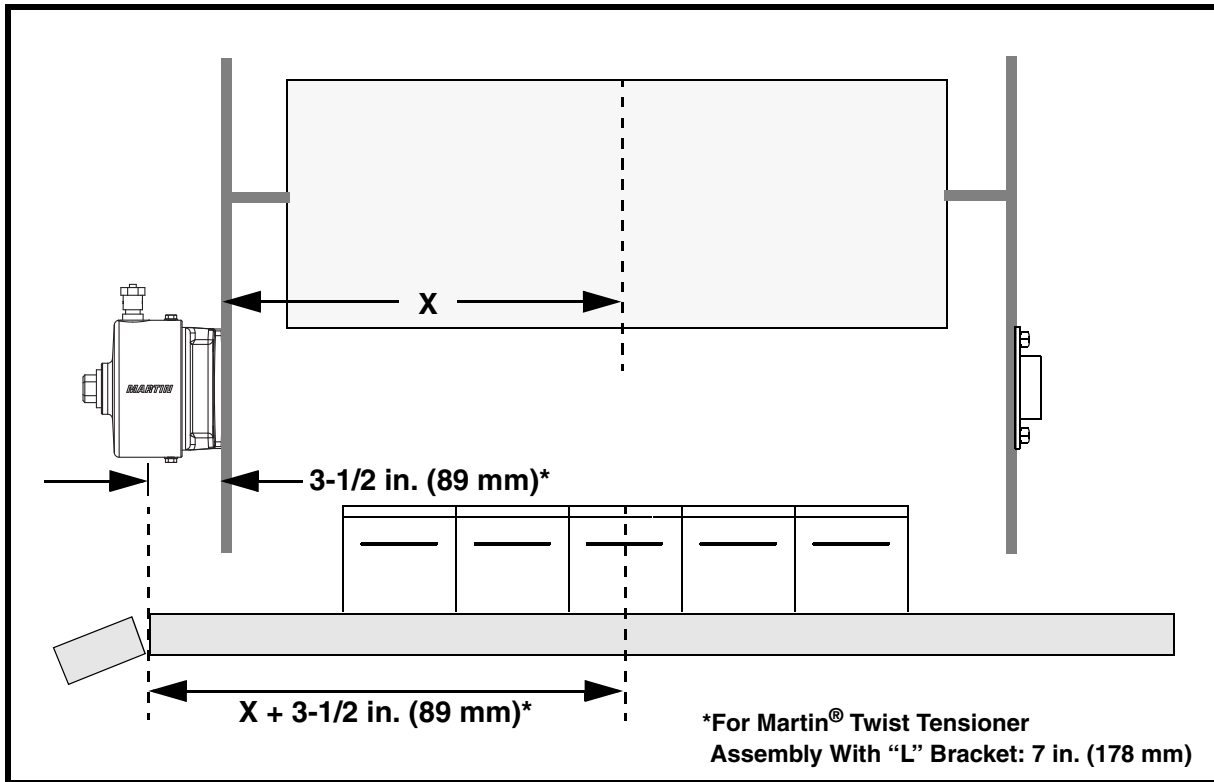

Figure 3. Cutting Belt Cleaner Mainframe
1. See Figure 3. Measure from center of conveyor belt to outside of operator side chute wall (X).